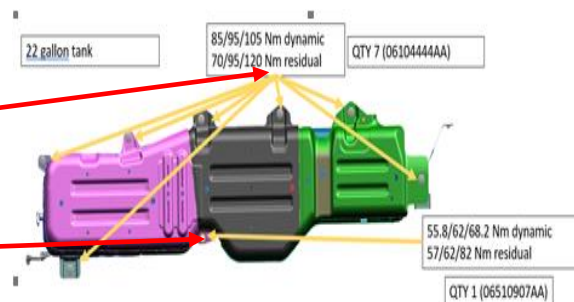

Figure 2 – Fuel Tank Fasteners
36. Install the **seven bolts** and tighten to 95 N·m (70ft. Lbs.) (Figure 2).
37. Install the **middle fuel tank bolt** and tighten the bolt to 62 N·m (45ft. Lbs.) (Figure 2).